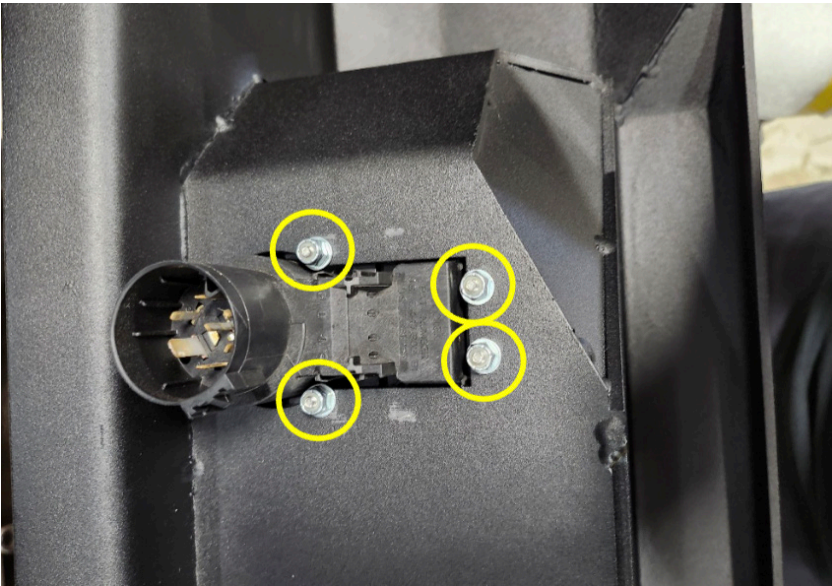

Figure 18
18. Hold the plug into the bumper and use a marking tool to mark the four (4) holes in the bumper. Use a 3/16" drill bit to drill holes in the plug. Use four (4) #8 bolts, washers and nylock nuts [50494-HW] to fasten trailer plug into bumper. (Figure 18)